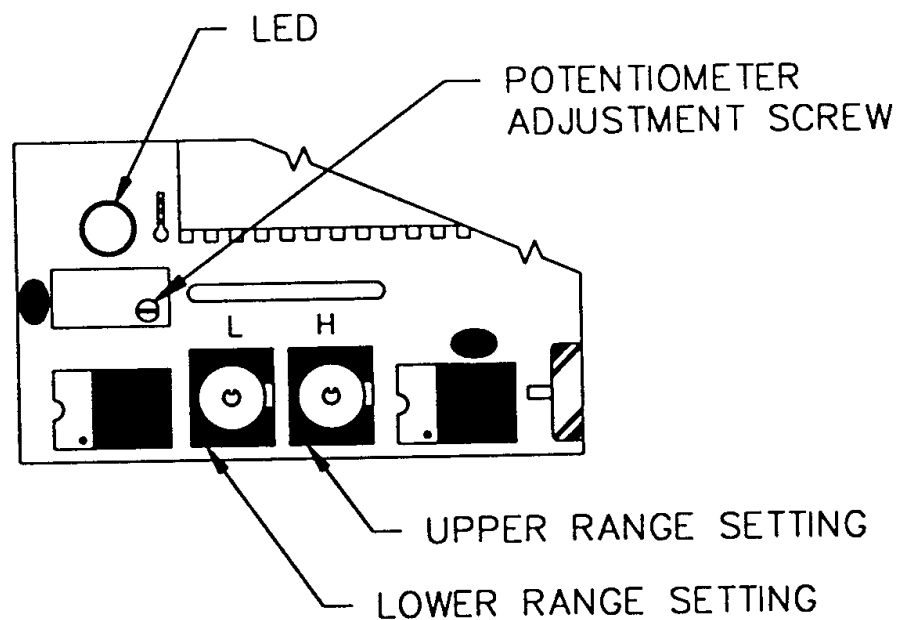

Figure 1
2. With power on, pull pendant trigger to full on position. Adjust potentiometer adjustment screw located next to the red light (see Figure 1) until light just turns off, then turn trim pot back until the light just comes on. The light should stay on during the full trigger movement. Clockwise rotation to the trim pot will turn light off. Counterclockwise rotation will turn the light on. This “tunes” the amplifier to the trigger potentiometer.
3. After warming the hydraulic system oil, determine which function should be used to set the low position switch (ROTATE uses the least amount of pressure). Activate that function with trigger released, and turn the lower range setting dial (See Figure 1, marked with “L” on circuit board) until the desired speed is reached. The “Zero” and the “F” on the dial are opposite ends of the switch. To adjust the low set point, **turn CLOCKWISE direction for INCREASED FLOW; turn COUNTERCLOCKWISE direction for DECREASED FLOW.** This adjusts the “Threshold Speed” for the trigger in the released position.
4. Operate the boom up function with trigger pulled back to the maximum position. Turn the high range setting dial (See Figure 1, marked with “H” on circuit board) until there is a noticeable decrease in speed, then back up one or two notches as desired.
the problem probably lies in either the Overload System or the Anti-2-block system or both. If these three functions are NOT WORKING and most other functions are, an investigation should be made as follows: (reference: Figure 1)